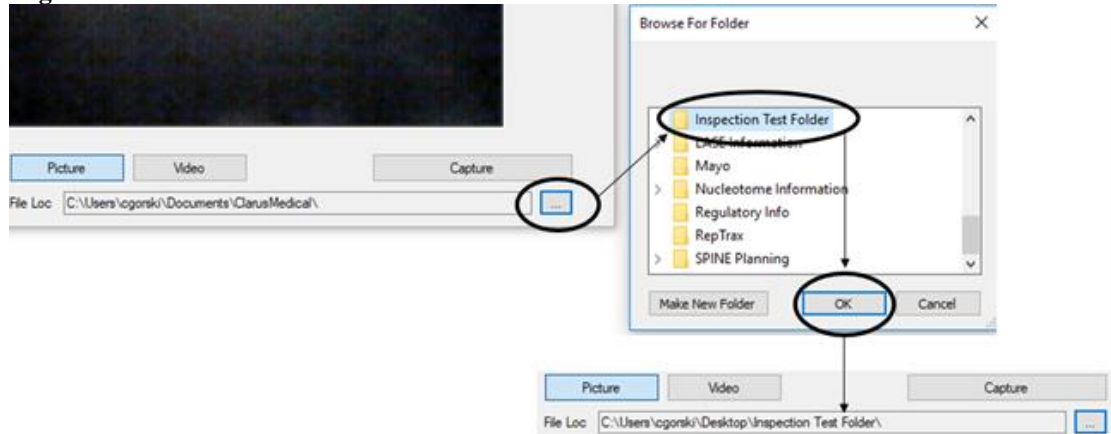

Figure 9A
2. Enter the characters that you would like to be included in file name. **Fig. 9A**